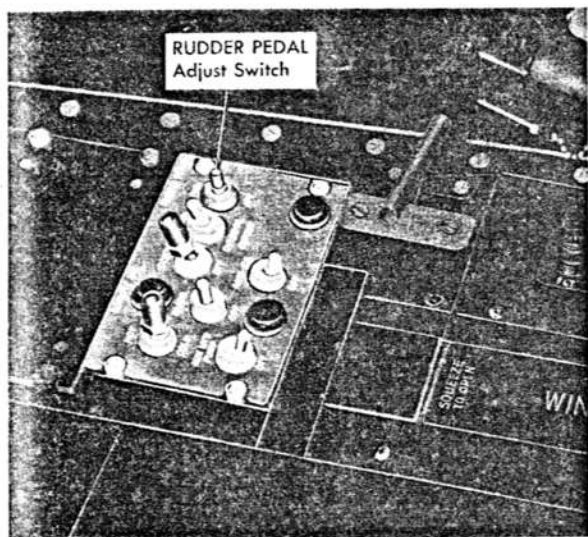

Figure 1-22. Rudder Pedal Adjust Switch
**RUDDER PEDALS.** The hanging-type rudder pedals (figure 1-22) are easily and quickly adjusted to suit individual pilot preference. The position of the pedals is adjusted by an electrical rotary actuator which actuates two screw jacks. The position of the rotary actuator is controlled by a RUDDER PEDAL adjust switch on the right-hand console.
**RUDDER PEDAL ADJUST SWITCH.** The RUDDER PEDAL adjust switch (figure 1-22) is located on the cockpit air control panel on the right-hand console. The "FWD" and "AFT" positions of the switch are momentary and the center position is off or stop. Holding the switch in "FWD" moves the rudder pedals forward; holding the switch in "AFT" moves the pedals aft.